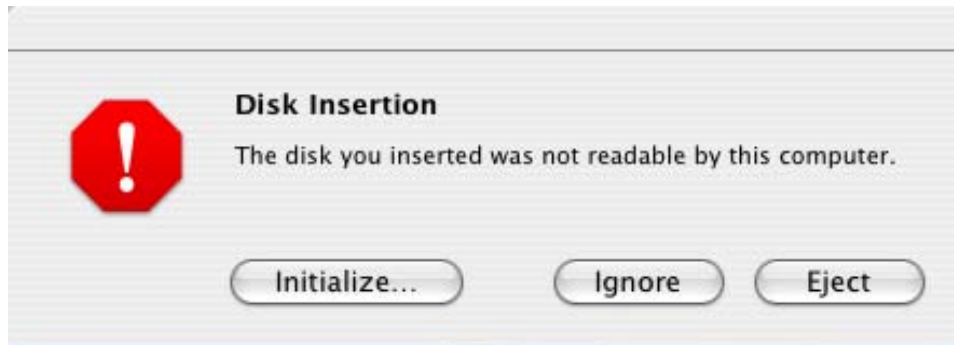

FIGURE 6-1. Disk Insertion Warning for Unformatted MV 4105 Units.
2. If the MV 4105 is unformatted, a warning appears before the Apple Disk Utility program is launched. Click **INITIALIZE....** See Figure 6-1.